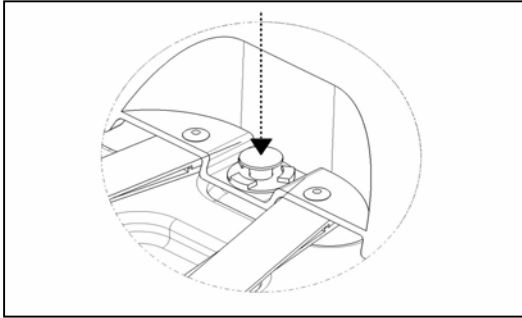

Figure 6
- b) Secure organizer to load floor with 9 pushpins (see figure 6).